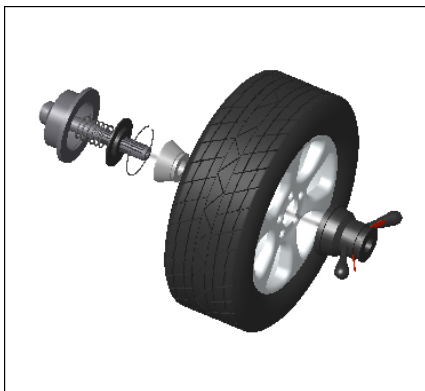

Fig 6-1
6.2.2.1 Positive positioning (refer to Fig 6-1):